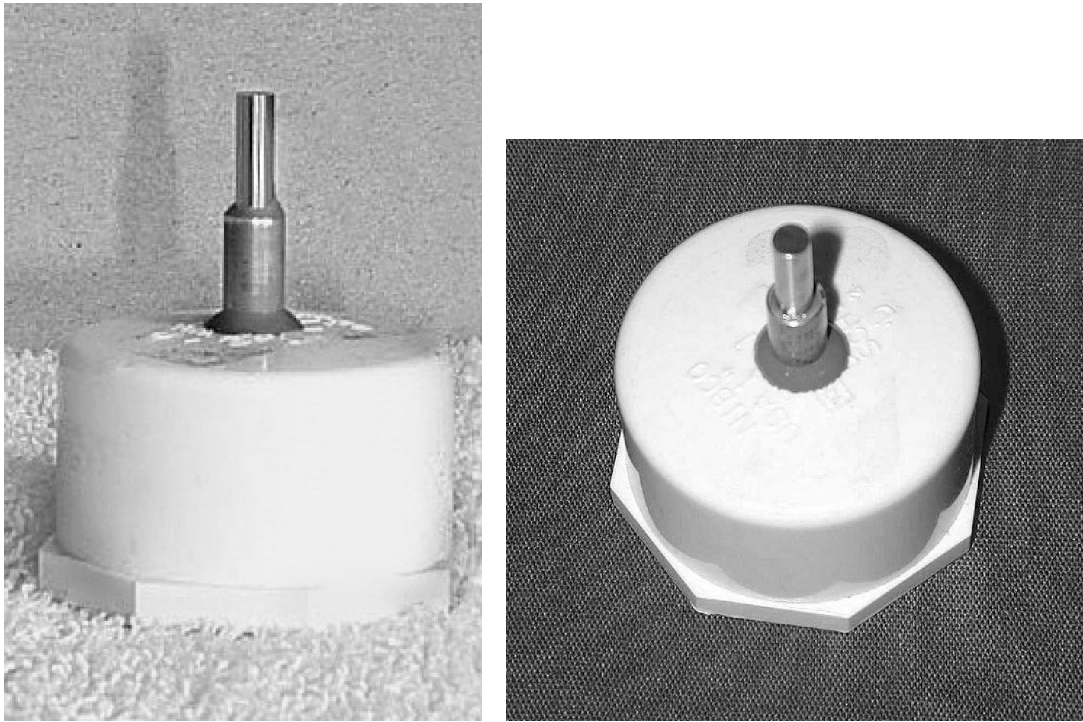

Figure A3.3 - Plastic cap with gage pin and drill collar sticking out, all epoxied together
4. When you have it put together and the epoxy is still wet, put it on a flat surface and slide the gage pin down until it bottoms out where the plastic cap sits on the flat surface. It will look something like Figure A3.3, below, when done. Make sure the gage pin doesn't dry at an angle (it should be coaxial (parallel) to the iron pipe, keep checking visually as it dries). If the pin isn't sticking straight out of the cap, your drop tester will not work properly.